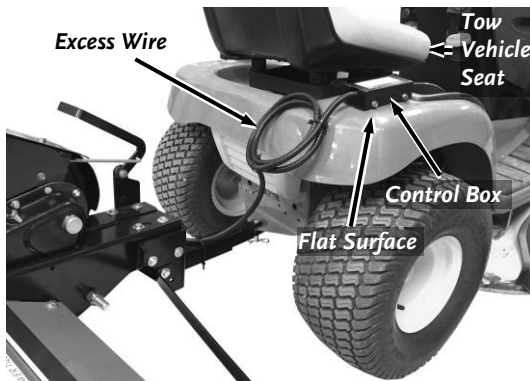

Figure 10
1. Position the Control Box on your Tow Vehicle within reach of the seated Tow Vehicle driver (**Figure 10**).